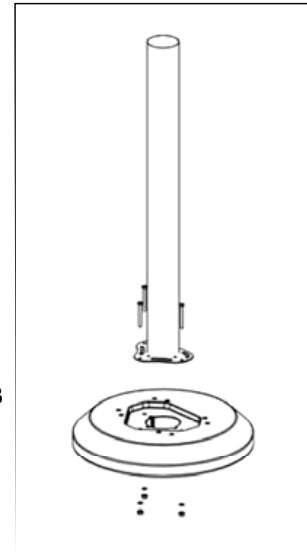

Figure 3
B. Place the post on the top of the weighted box, with black plate attached on bottom. Then connect them with 6pcs M6x55 bolts and 6pcs M6 bolts (Figure 3).